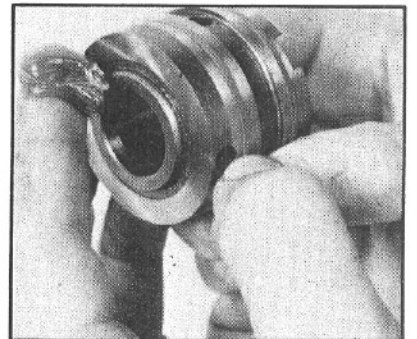
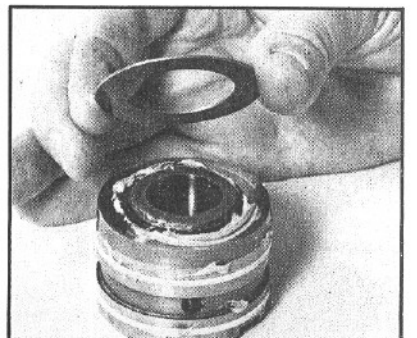

Figure 120
Figure 121
22. Remove the compression tool from the valve sleeve (15). Apply more grease to the valve sleeve seals (13 and 14), and grease the thrust washer face on the end of the valve sleeve without the drive slots (FIG. 120). Place the second thrust washer (11) onto this face (FIG. 121).